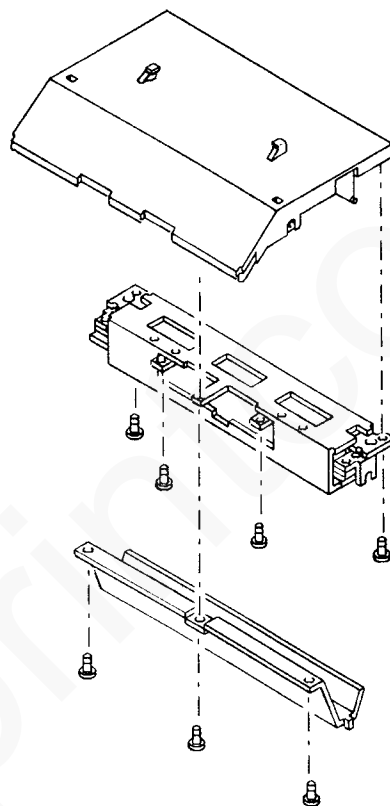

Figure 2. Print head
7. Remove three screws (Figure 2) retaining the thermal head metal cover and ground wire.
8. Remove four screws (Figure 2) retaining the thermal head.